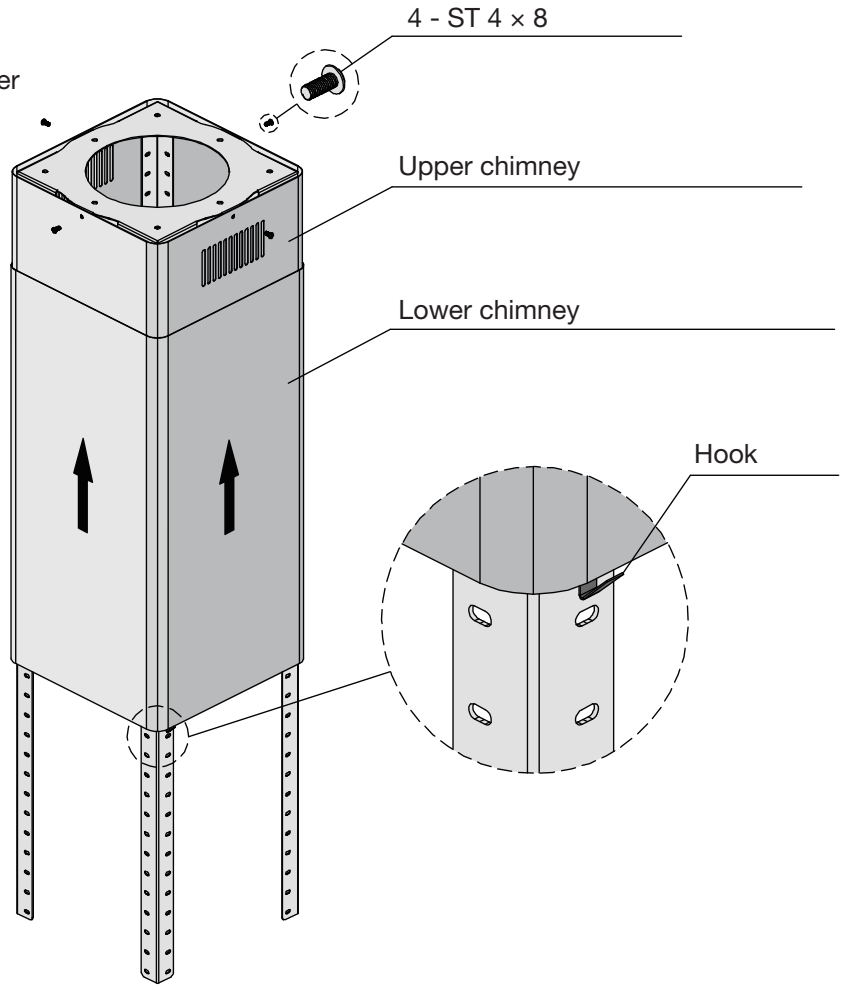

Figure 3
- Insert hook into bracket to hold lower chimney temporarily. See Figure 3.